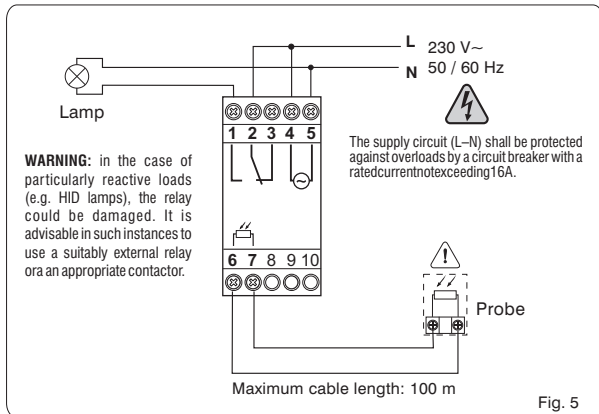

Fig. 5
- Connect the load as indicated in figure 5:
- Insert the cable into the connector and connect to the terminals (fig. 5).